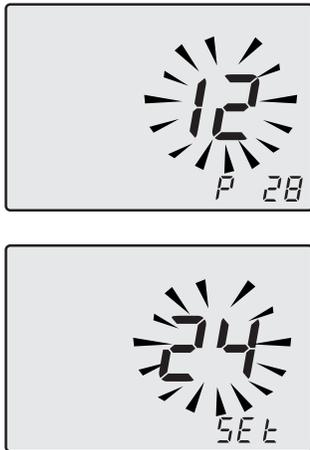

Fig. 9.4
- Use key 11 or 12 to modify the value of parameter 28 from **00** months to **48** months. The value **99**, which disables the maintenance request, is permitted. The writing **P28 - SET** alternates on the display (Fig. 9.4).